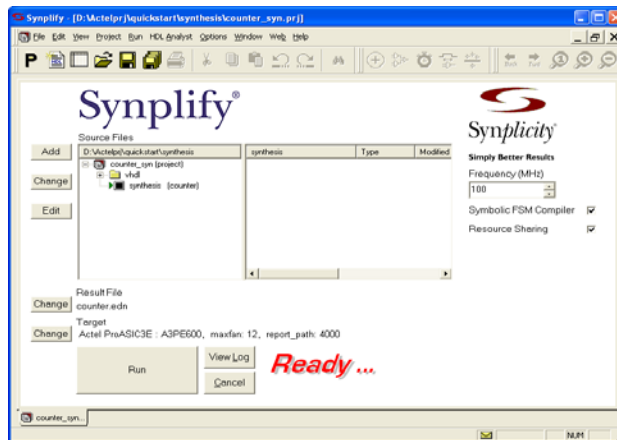

Figure 3-23. Synplify
1. In the Libero IDE, double-click the **Synplify Synthesis** icon in the Libero IDE process window or right-click the **counter.vhd** file in the Design Hierarchy and select **Synthesize**. This launches the Synplify synthesis tool with the appropriate design files, as shown in Figure 3-23.